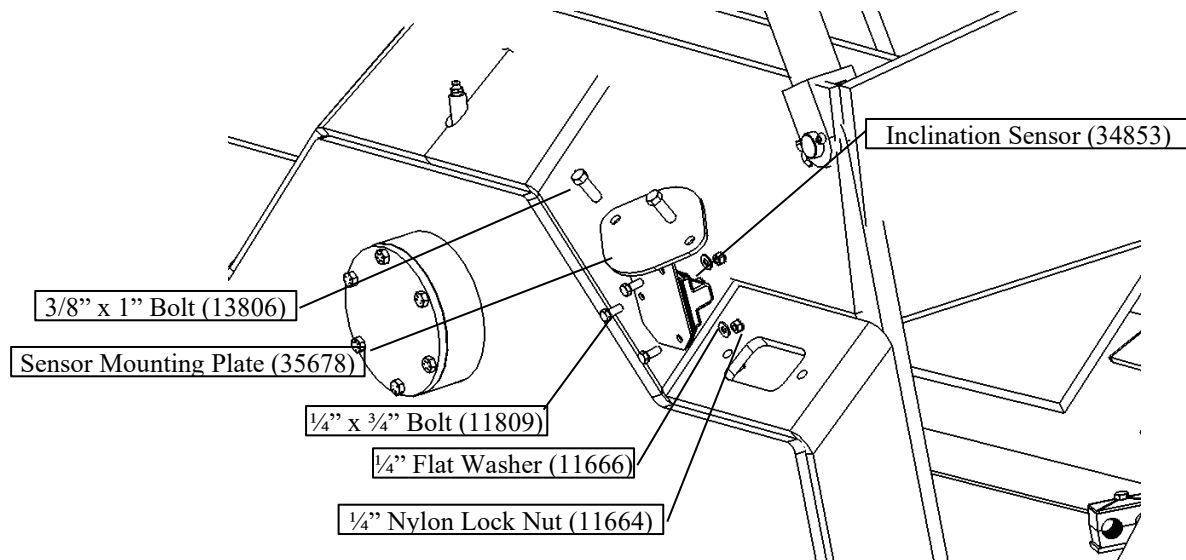

Figure 3.42 Back Axle Sensor plate
- d) To install the back axle inclination sensor (34853), bolt the sensor to mounting plate (35678) as shown in figure 3.42 and connect to sensor wiring. **Note: Maximum torque of 30 in-lbs on 1/4\"**